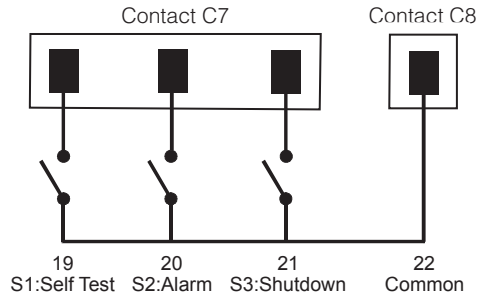

Figure 3.7- User Input Layout
- **User Input (C7):** This relay has 3 contacts to control the FXM (Figure 3.7). They are: